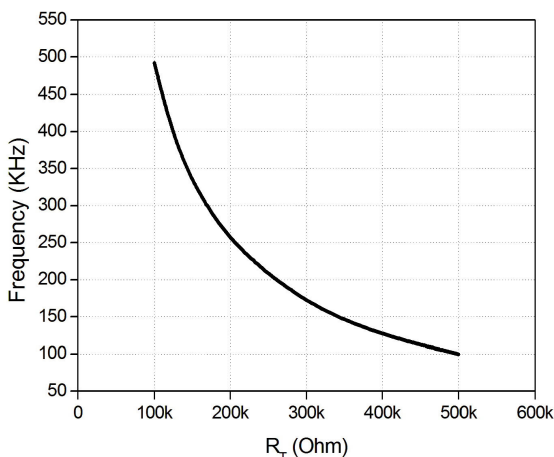

Figure 1 Boost switching frequency vs. RT
See Figure 1 for switching frequency adjustment resistor (RT)